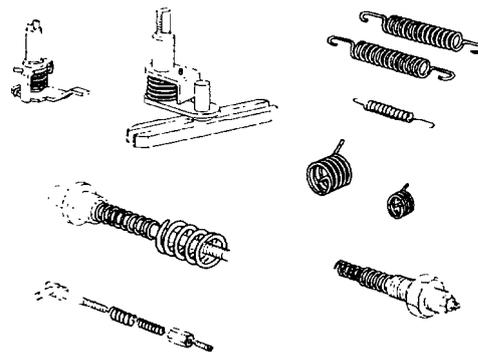

Figure 104 Governor Springs
- i.** Inspect all springs (Figure 104) for distortion, excessive wear, cracks or damage and replace as necessary.